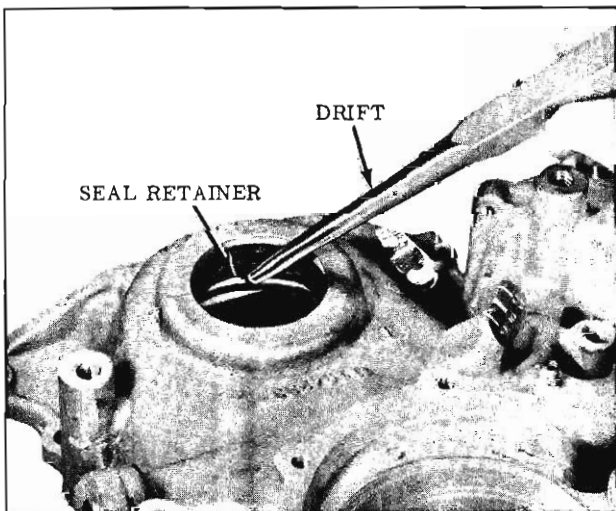

Fig. 3-118 Removing Front Oil Seal
3. Remove seal retainer with drift. (Fig. 3-118)